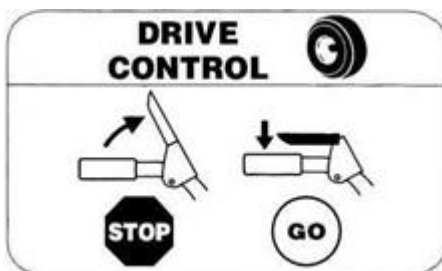

Figure 5
5. Mount the chute: place the chute on the chute seat, fix it with three bolts and nuts attached (Fig. 5).
The drive control is located on the right handle. Squeeze the control grip against the handle to engage the wheel drive. Release to stop. See Figure 5.